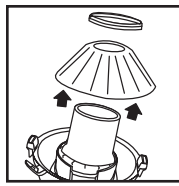

FIGURE 19
31. To remove the filter for cleaning, remove mounting ring and filter from lid cage. **FIGURE 19.** To clean the reusable dry filter, shake off excess dirt and dust or (depending on the condition of the filter) rinse with water. Allow the filter to dry completely and re-install. **DO NOT MACHINE WASH OR DRY.**